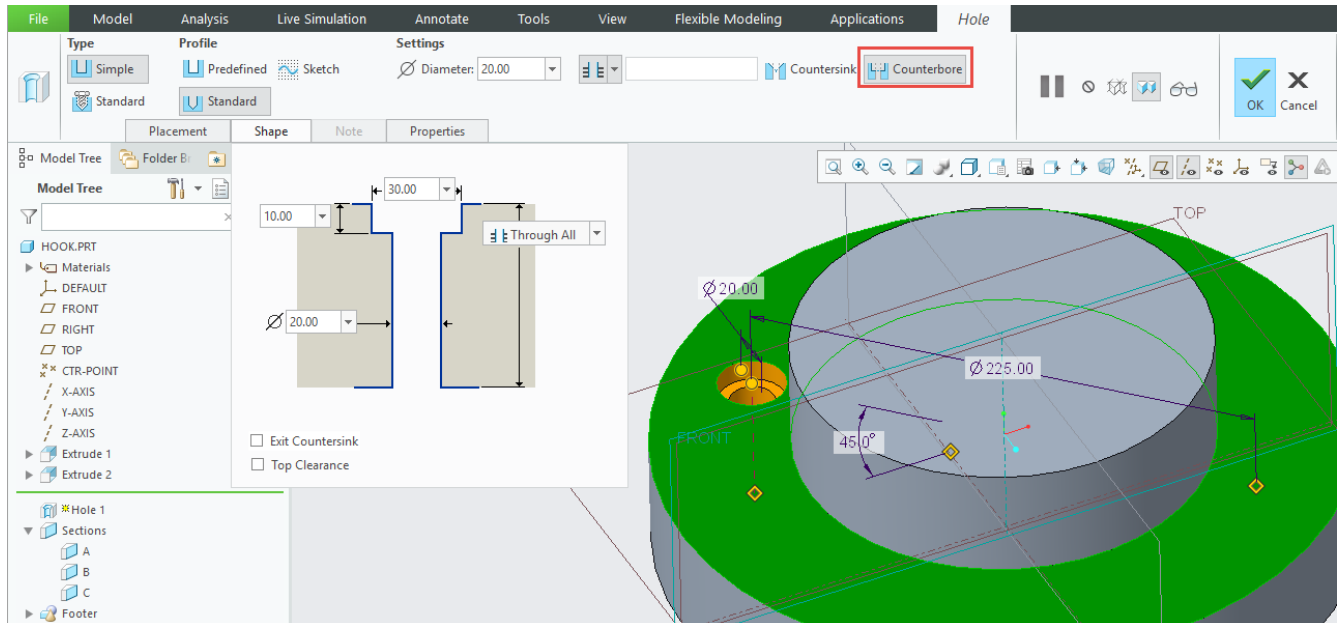

Figure 8: Ready to accept *Hole* feature.
Next step is to define the profile of the hole. Choose **use standard hole profile** (U) from the dashboard and then **Adds counterbore** (L). Choose **Shape** tab and define the profile values of the hole (Figure 8). When ready, accept the feature (**MMB**).